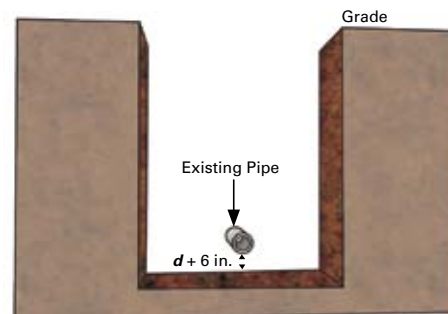

Fig. 3
Step 3: Continue excavation along each side of the pipe and below, taking care to avoid damaging the pipe. Excavate to a distance of d plus 6 in., where d is based on the type of pipe, type of use and type of supporting blocks used. See *Precast Solutions*, Winter 2012 issue for derivation of d . (See Fig. 3)